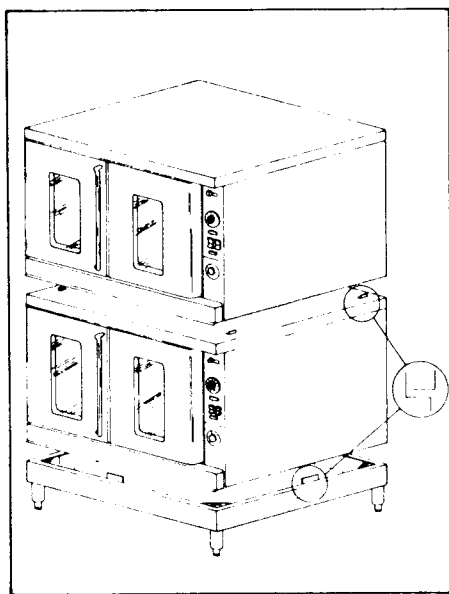

Fig. 4
Turn modular stand frame upside down. Insert a leg into each socket (4) and firmly tighten all wing screws. Set modular stand in desired location of oven. Place bottom oven section on stand and position oven so that locator tabs on stand engage oven bottom frame. Place top oven section on lower unit and position so that locator tabs on lower unit engage oven bottom frame. (See Fig. 4)